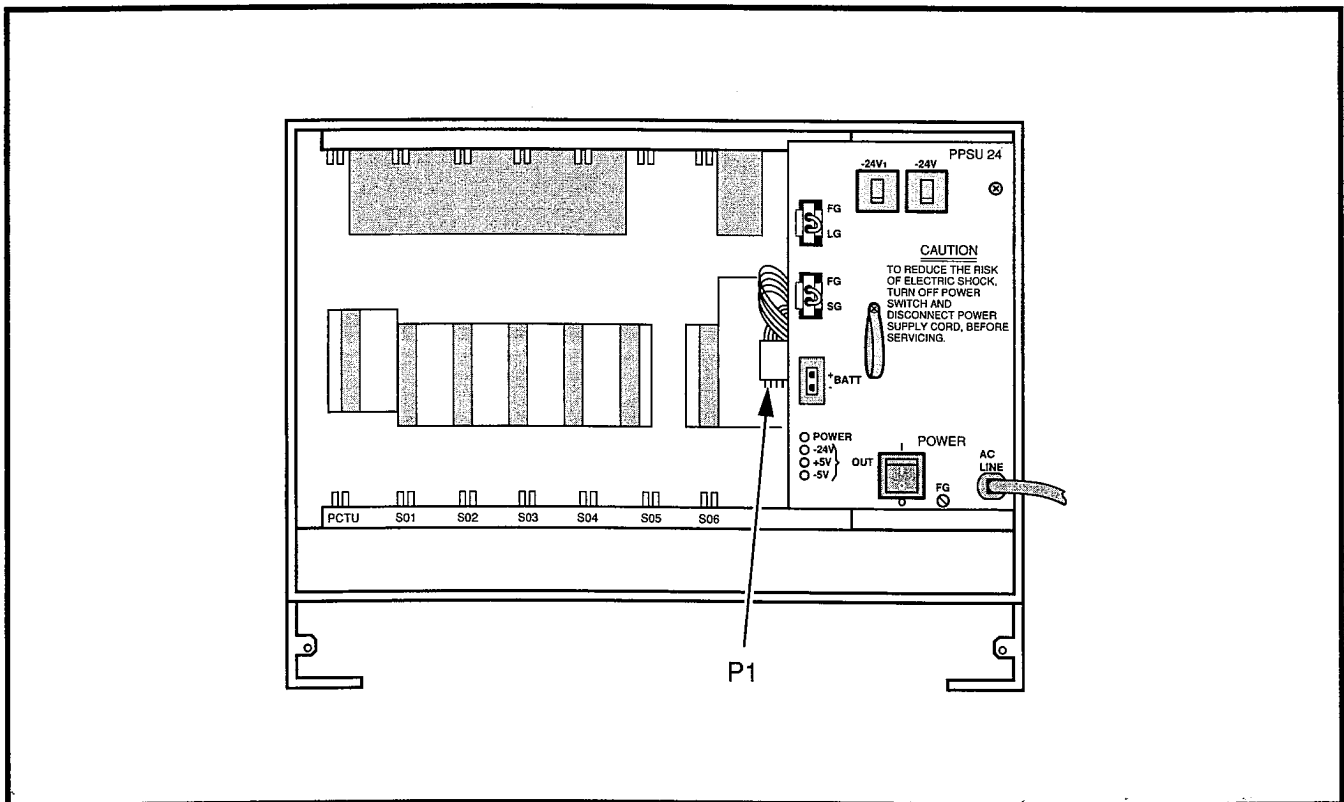

FIGURE 15—DK24 CABINET INTERIOR
- The DK24 cabinet interior (Figure 15) has one shelf with seven PCB slots, labeled PCTU, S01 ~ S06. The power supply is positioned vertically on the right side of the shelf, and is installed at the factory.